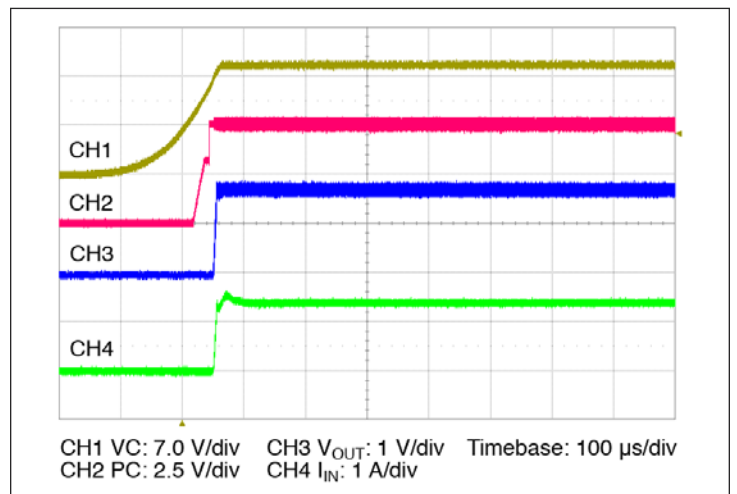

Figure 14 — Start up from application of VC; VIN pre-applied COUT = 0  $\mu$ F
- Stand Alone Operation (VC applied after VIN): In this case the module output will begin to rise upon the application of the VC voltage (See Figure 14). The Adaptive Soft Start circuit (See Section 10) may vary the output rate of rise in order to limit the inrush current to its maximum level. When starting into high capacitance, or a short, the output current will be limited for a maximum of 900 µsec. After this period, the adaptive soft start circuit will time out and the VTM module may shut down. No restart will be attempted until VC is re-applied, or PC is toggled. The maximum output capacitance is limited to 1500 µF in this mode of operation to ensure a successful start.